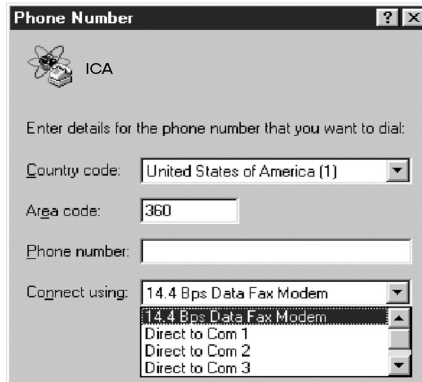

Figure 2-12 Phone Number Dialog
1. In the Phone Number dialog box (Figure 2-12), enter the following information.